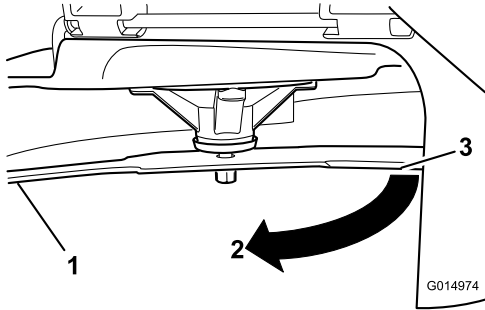

**Figure 75**
5. Measure from the tip of the blade to the flat surface (Figure 75).